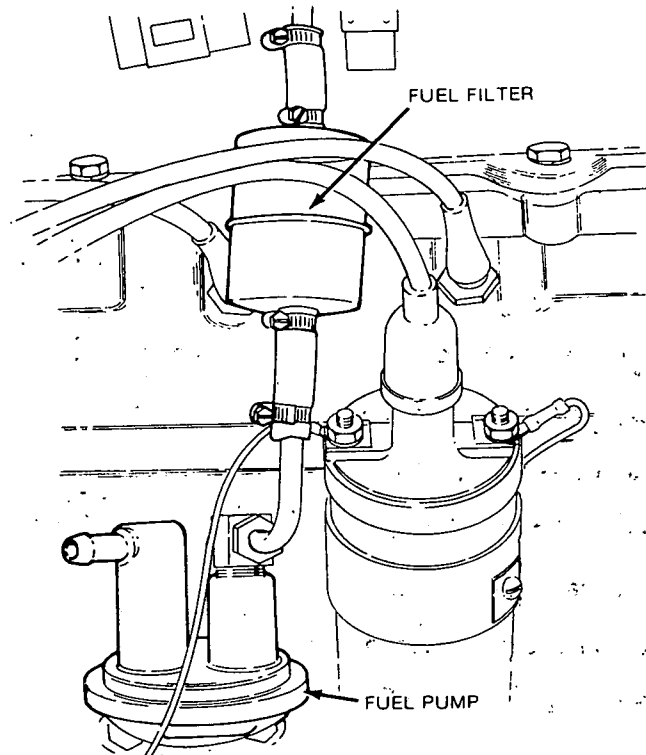

FIGURE 3. FUEL PUMP AND FITTINGS
**Gasoline Fuel:** Use 1/2-inch tubing to connect the engine fuel pump inlet (see Figure 3) to an approved fuel tank installation.